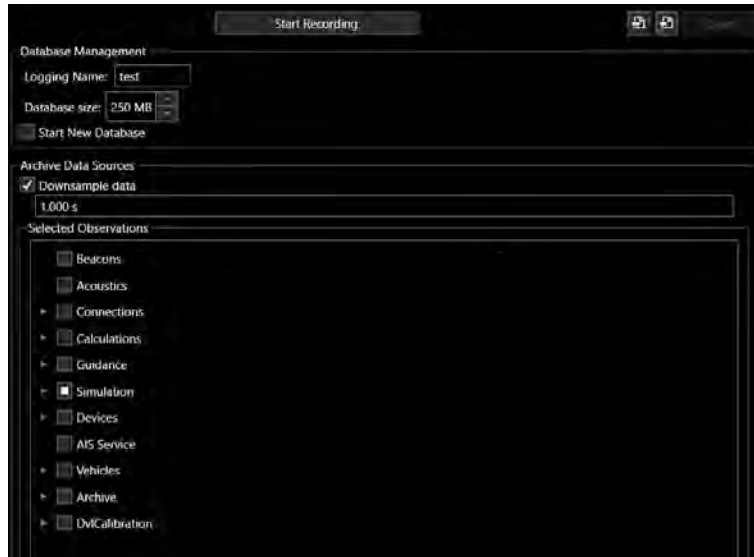

FIGURE 14-8 CONFIGURE DATA RECORDING
2. In **Database Management** (see Figure 14-8)